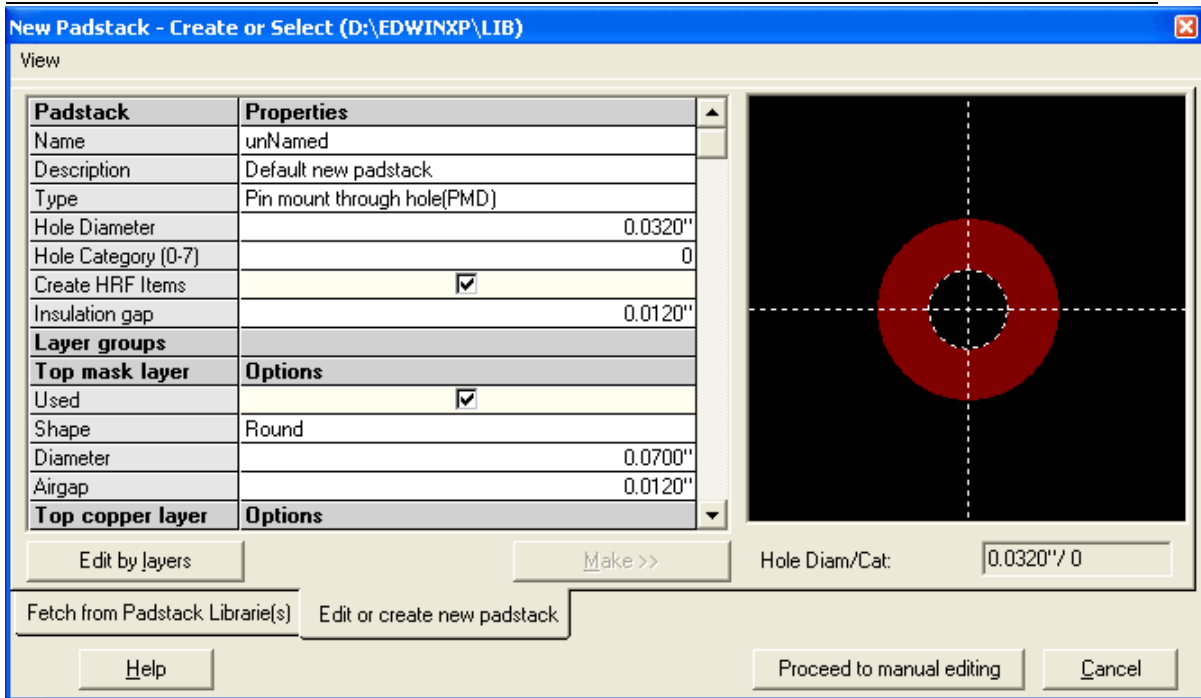

Fig. 3.20
1. Select **File | New Padstack using Wizard**. to pop up window as shown in Fig.3.20.